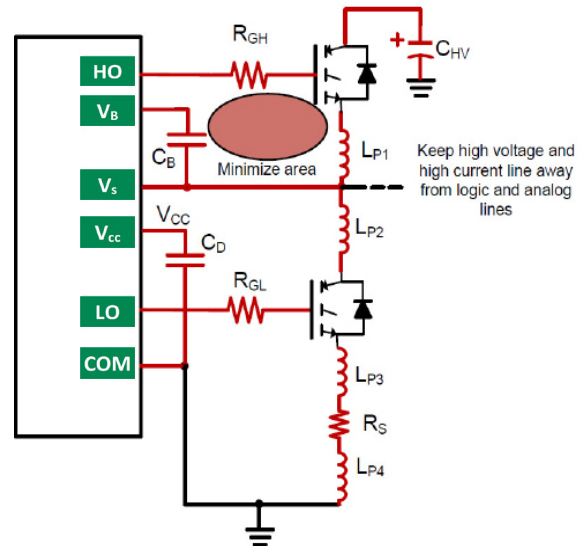

Figure 12. Layout suggestions for LF2304N in a halfbridge, lines in red should be as short as possible
Layout plays a considerable role since unwanted noise coupling, unpredicted glitches and abnormal operation could arise due to poor layout of the associated components. Figure 12 shows the schematic with parasitic inductances in the high current path (LP1, LP2, LP3, LP4) which would be caused by inductance in the metal of the trace. Considering fig. 12, the length of the tracks in red should be minimized, and the bootstrap capacitor (CB) and the decoupling capacitor (CD) should be placed as close to the IC as possible as well as using low ESR ceramic capacitors.